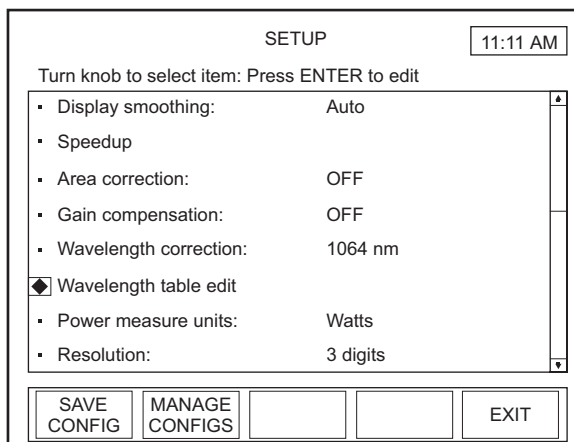

Figure 56. SETUP: Wavelength Table Edit
1. On the main SETUP screen, turn the Selection knob to move the diamond indicator to Wavelength Table Edit (Figure 56).